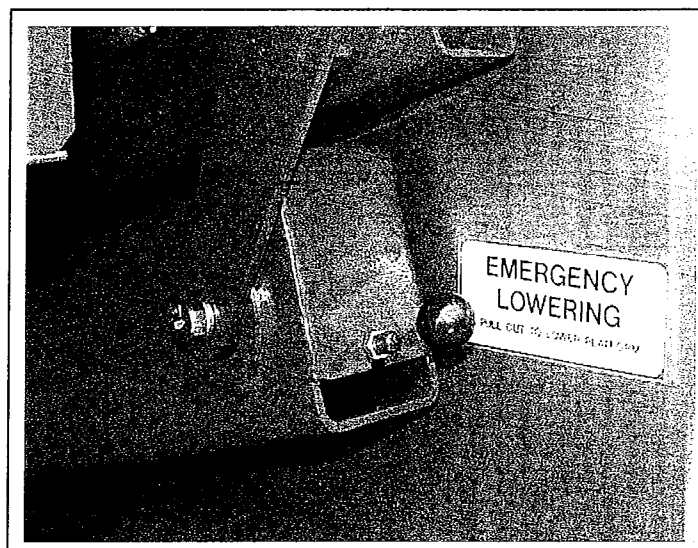

Figure 2-4: Emergency Lowering Valve Knob
14. Pull out on the emergency lowering knob (Figure 2-4) to check for proper operation. Once the platform is fully lowered, release the knob.
<p>If the platform should fail to lower, NEVER climb down the elevating assembly.</p> <p>The emergency lowering valve knob is located at the front of the chassis (Figure 2-4).</p>